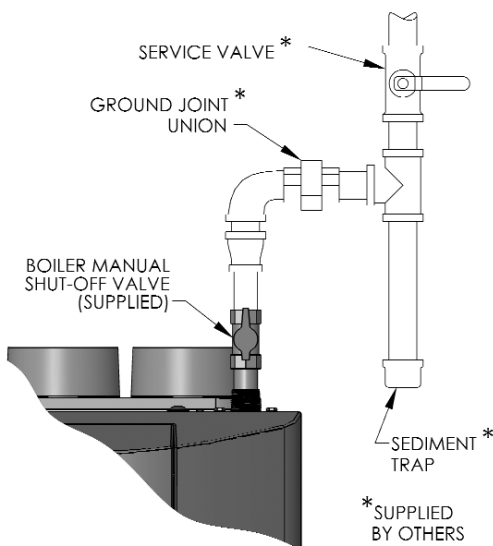

Figure 5.1: Gas Supply Pipe and Shut-off
2. Install a sediment trap as shown in Figure 5.1. Be sure to allow clearance from the floor or other horizontal surface for removal of the pipe cap.
4. Install a service valve as shown in Figure 5.1 to allow the gas supply to be interrupted for service.
7. Figure 5.1 shows the gas shutoff valve for the *PUREFIRE*® boiler. This valve is to be used in addition to the gas service valve shown upstream of the sediment trap.